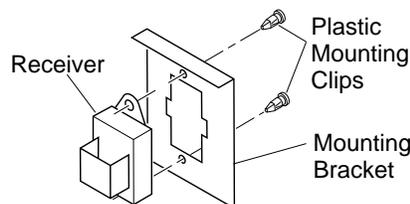

Figure 36 - Installing Remote Receiver (Shown from Rear of Mounting Bracket)
3. Install remote receiver unit onto mounting bracket using the two plastic mounting clips (see Figure 36).